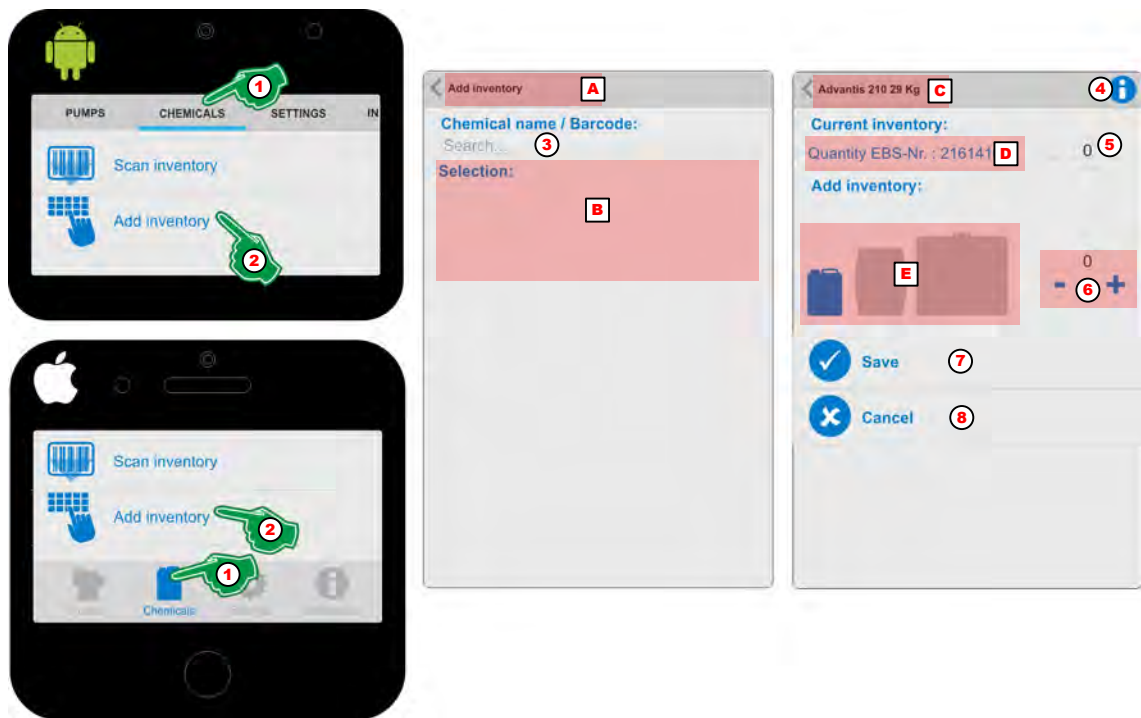

Fig. 38: Add inventory
1. Select Menu 'Chemicals' (Fig. 38, Pos. 1).
2. Select 'Add inventory' (Fig. 38, Pos. 2).
⇒ The screen switches to the 'Search and selection screen' (Fig. 38, Pos. 3).
⇒ The keyboard of the Smartphone opens. After entering the first letter, the screen under the 'Selection:' (Fig. 38, Pos. B) of the chemicals in question. If the desired chemical has been selected, it is displayed (Fig. 38, Pos. C).
4. With the selection of the [Info] ⓘ Symbol (Fig. 38, Pos. 4), the display will be:
5. In addition to the recognized dosing chemistry (Fig. 38, Pos. C) the EBS no. (order number) is displayed (Fig. 38, Pos. D). In addition to this display, the quantity of the chemical in stock must be entered (Fig. 38, Pos. 5) to enable correct warehouse management.
6. ▶ When you enter the goods, the container size is displayed as a blue symbol graphic (Fig. 38, Pos. E). To add a stock to a new delivery of chemical containers, the quantity must be set (Fig. 38, Pos. 6).
7. ▶ Press the *[Save]* button (Fig. 38, Pos. 7) to save the inputs.
8. ▶ Press the *[Cancel]* button (Fig. 38, Pos. 8) to cancel the inputs.